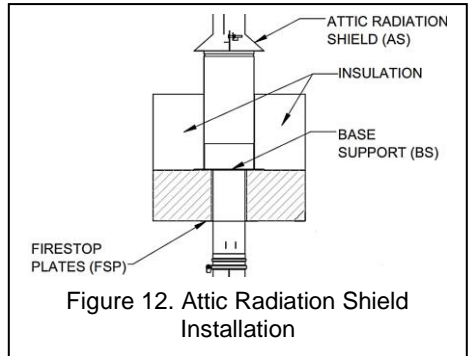

Figure 12. Attic Radiation Shield Installation
The Attic Radiation Shield (AS) is used when the venting system is not enclosed in an attic space. This part is installed on the top of the floor level. Figure 12 shows an example.